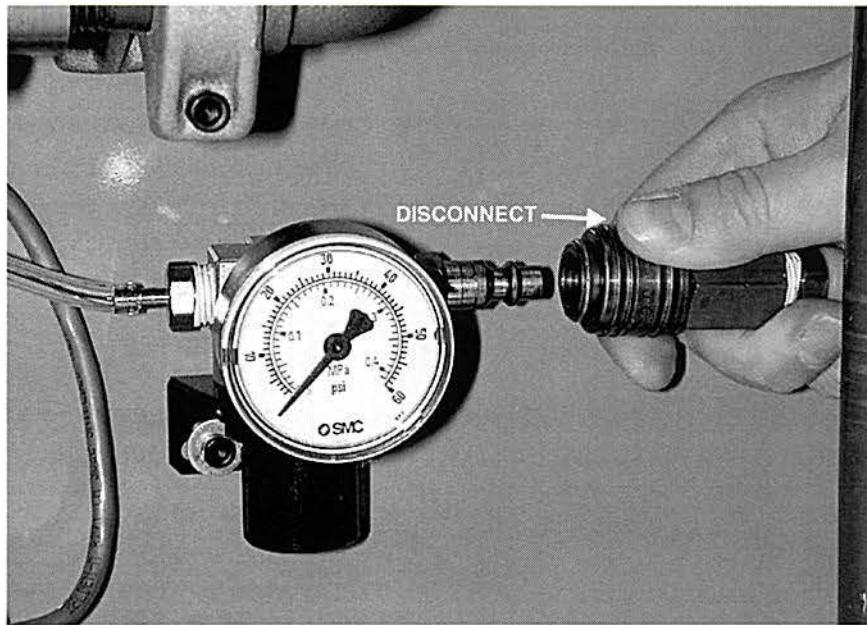

Figure 48. Disconnected Pressure Line
- 7. Disconnect the pressure line from the air pressure regulator, as shown in figure 48.